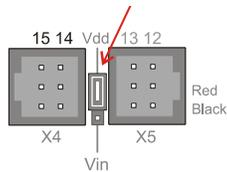

Figure 2-8
- √ Set the jumper between the X4 and X5 servo to Vdd (+5 V) as shown in Figure 2-8. The jumper should cover the two pins closest to Vdd, and the third pin next to Vin should be visible.